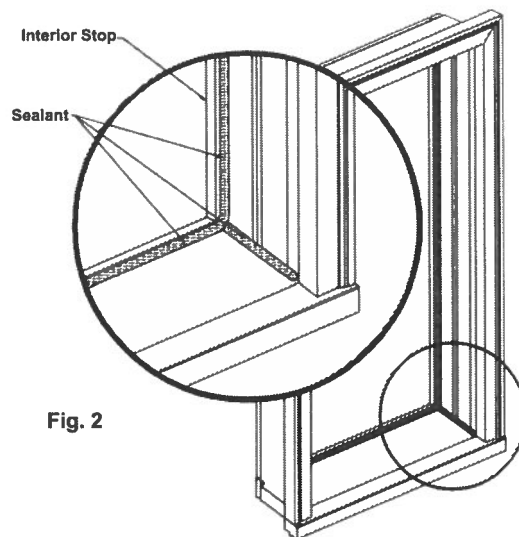

Fig. 2
6. Apply a 1/4" – 3/8" bead of sealant to the backside of the interior stops around the entire perimeter. Apply a secondary bead of sealant to the sill area at the sill to side jamb joints. See Figure 2.